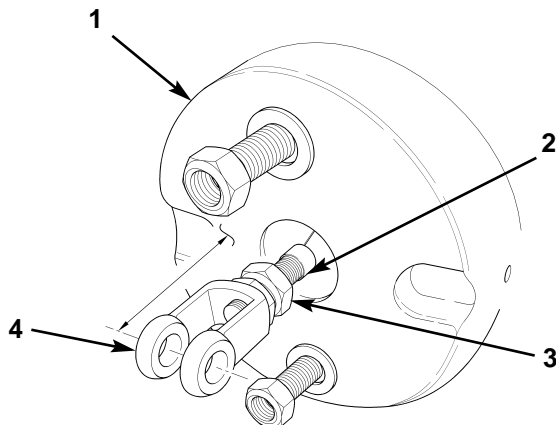

Figure 6. Installing Clevis.
2. Install jamnut (figure 6, item 3) and clevis (figure 6, item 4) on pushrod (figure 6, item 2) of spring brake chamber (figure 6, item 1) until center of holes in clevis (figure 6, item 4) are 3 in. (76 mm) from face of spring brake chamber (figure 6, item 1). Finger tighten jamnut (figure 6, item 3).